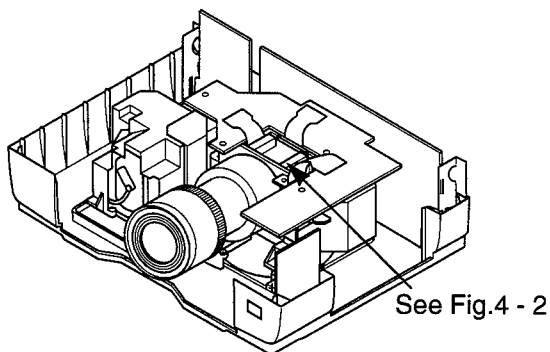

Fig.4 - 1
- ① Apply heat-running for 10 minutes or more before adjustment.
- ② Input a cross-hatch signal to the RGB input terminal with a timing signal of XGA VESA (60).
- ③ Project about a 40" size image and adjust H.PHASE so that the vertical lines of cross-hatch pattern are seen most clear.
- ④ Loosen 2 screws ① of both the R and B panel's metal fittings. (See Figs.4 - 1 and 4 - 2.)